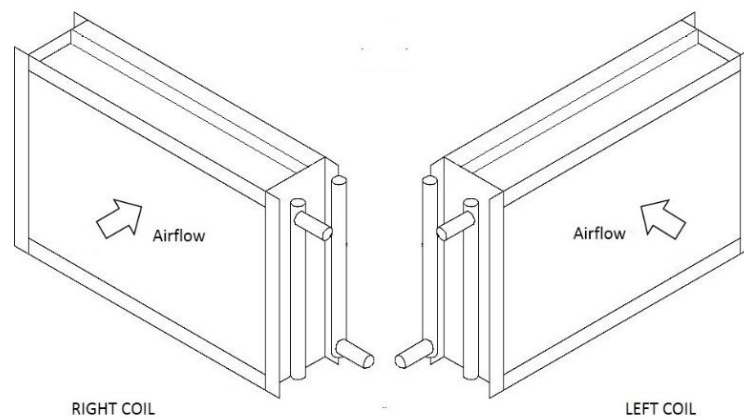

Fig.2
- Check that the handing of the coil is correct for your application. The handing is determined while looking in the direction of airflow and relates to the position of the connections (See Fig.2).